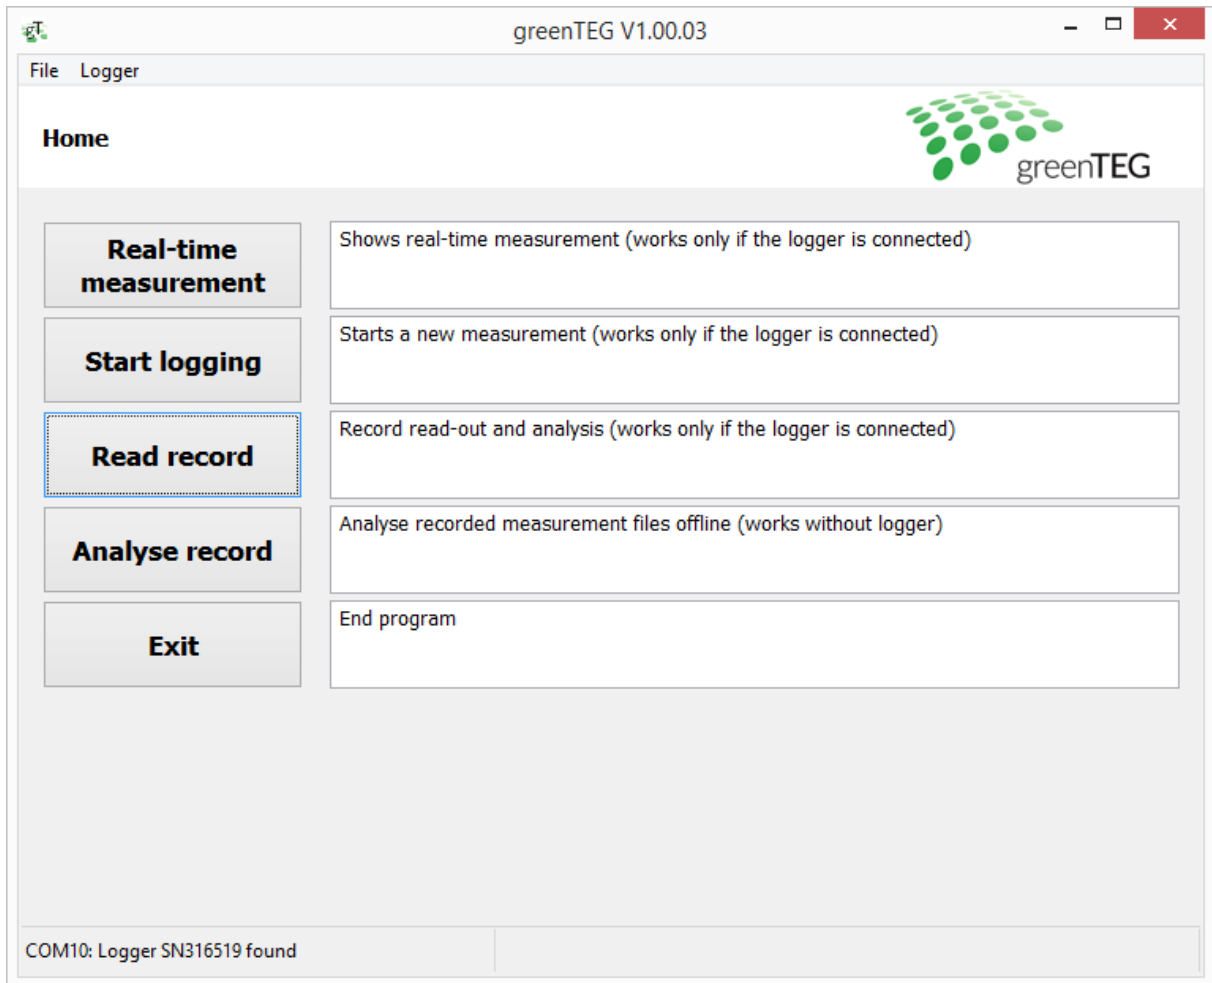

Figure 2: Home screen view with data logger connected to your laptop
The gSKIN[®] Heat Flux software is built upon a home screen with 7 functional buttons (see figure 2):
4. When you open the software the home screen will appear (see figure 2). Under "File" > "Language" you can change the language settings from English to German or vice versa
- To review other data logger files stored on your laptop, you can select these files via your **home screen** by using the “Analyse record” button (see figure 2)